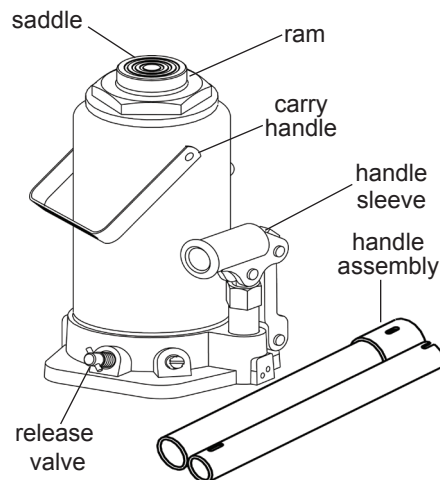

Fig. 1 - 30 Ton Bottle Jack Nomenclature
**Lifting** (refer to Fig 1, Page 2)